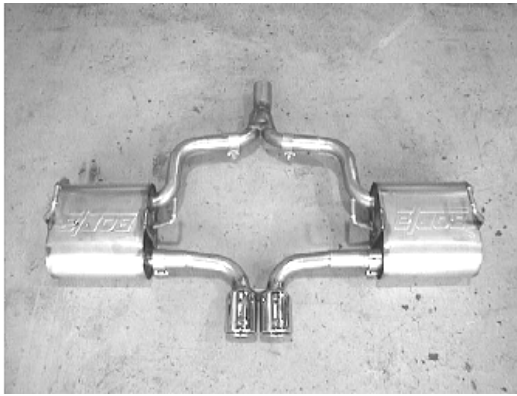

Figure 8
1. Assemble the entire rear section as shown in figure 8. **Do Not** tighten the clamps.